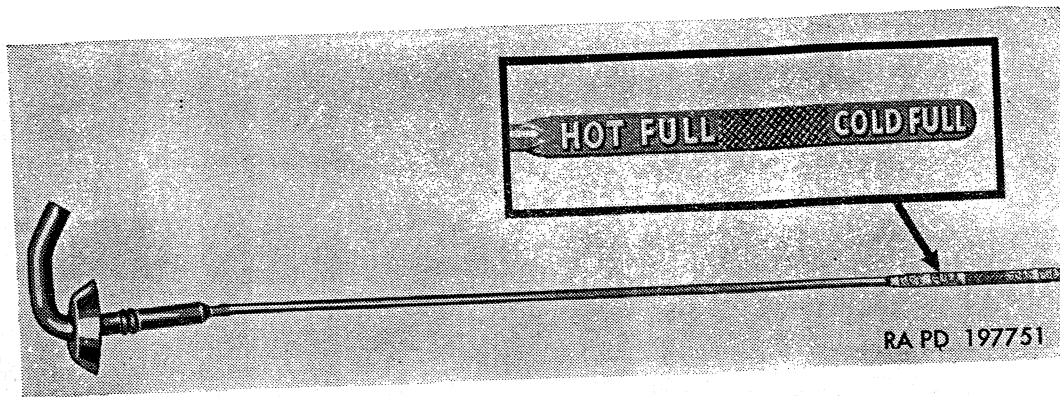

Figure 185. Transmission oil level indicator removed.
*b. Checking Oil Level.* Refer to lubrication chart (par. 69) for type of oil and lubrication intervals. Transmission oil level indicator (dipstick), located in the oil filler tube, has two level marks: COLD FULL—lower mark and HOT FULL—upper mark (fig. 185). COLD FULL mark is used for checking oil level when vehicle has not been run for an extended period. HOT FULL mark is used when checking oil level after vehicle has been run and engine and transmission are warmed to normal operating temperature. Transmission oil level must be checked in the following manner if a correct reading on indicator is to be obtained.
- (1) *Transmission cold.* When engine has not been run for an extended period, apply parking brake and start engine. Move transmission control lever into F-1 HIGH RANGE position and run engine at idling speed for 3 to 5 minutes. Lift floor plate to gain access to transmission oil level indicator; then
clean all dirt from area around indicator. With engine still running, withdraw indicator, wipe off, and reinsert. Again withdraw indicator. Oil level reading should be at approximately the COLD FULL mark on indicator (fig. 185).
- (2) *Transmission hot.* When vehicle has been run and engine and transmission are warmed to normal operating temperature, apply parking brake and start engine. Move transmission control lever into F-1 HIGH RANGE position and run engine at idling speed for 3 to 5 minutes. Lift floor plate to gain access to transmission level indicator; then clean all dirt from area around indicator. With engine still running, withdraw indicator, wipe off, and reinsert. Again withdraw indicator. Oil level reading should be approximately at HOT FULL mark on indicator (fig. 185).
*c. Replenishing Oil.* With transmission control lever in N (neutral) position and parking brake lever applied, start engine. Move transmission control lever into F-1 HIGH RANGE position. Clean all dirt from areas around filler cap; then remove filler cap and level indicator. Add sufficient oil to bring oil level up to reading on indicator (fig. 185), depending upon whether transmission is COLD or HOT as described in *b* above. Install filler cap and indicator; then recheck oil level.